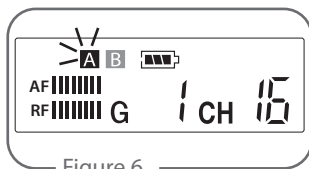

Figure 6
- (1) Antenna Status: the receiver will automatically select an antenna with stronger signal reception and highlight that antenna ⑮ (Figure 6)
- (2) Battery indicator: the receiver's battery indicator will show the same gauge as the transmitters.